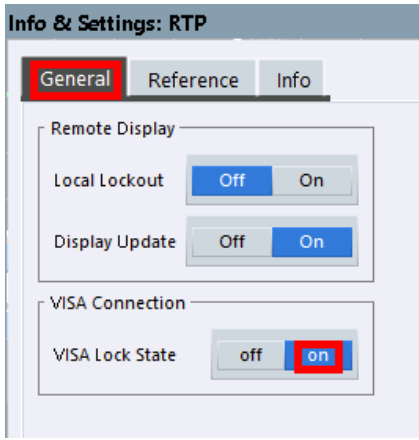

Fig. 3-9: General settings of RTP/RTO
- Goto "General" tab, enable the VISA lock state is recommended. See Fig. 3-9.